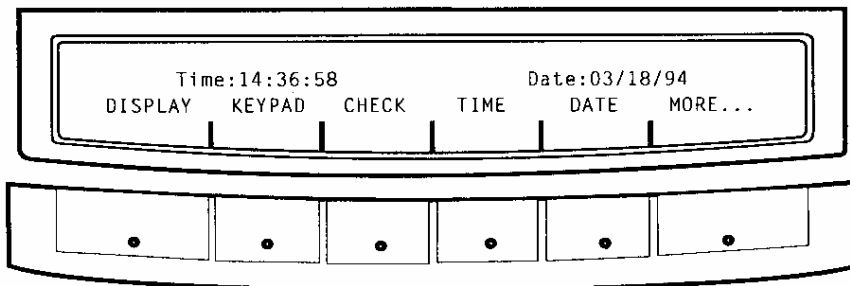

Figure 4
- TEST** - Activates a set of soft keys for testing, configuration and calibration. These keys are shown in Figures 4 and 5.